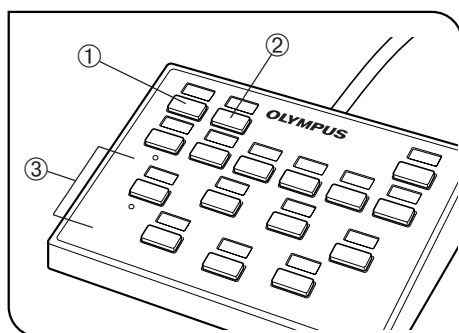

Fig. 4
1 Selecting the Observation Light Path (Fig. 4)
2 Centering the Field Iris Diaphragm (FS) (Figs. 4 & 5)
3 Centering the Aperture Iris diaphragm (AS) (Figs. 4 to 6)
1. Press the BF button ① of the hand switch to select the reflected light brightfield light path.
2. Press the objective button ③ (Fig. 4) of the hand switch to engage the 10X objective in the light path, place the specimen on the specimen table and bring the specimen into approximate focus.
3. Remove an eyepiece, look into the eyepiece sleeve and press the AS-button ⑧ of the hand switch to stop down the aperture iris diaphragm to about 70% opening.